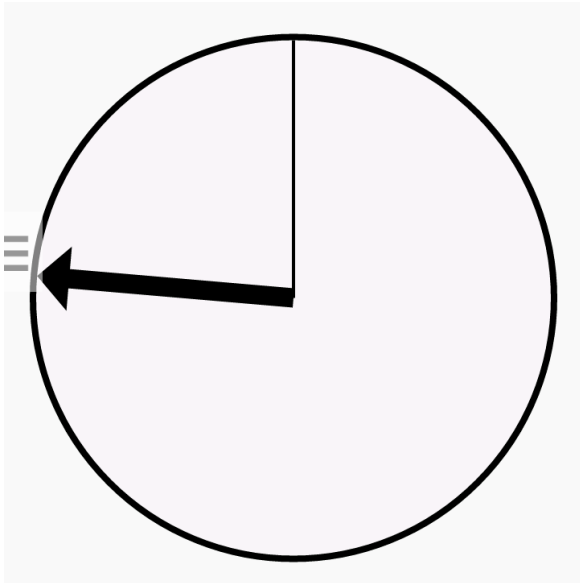
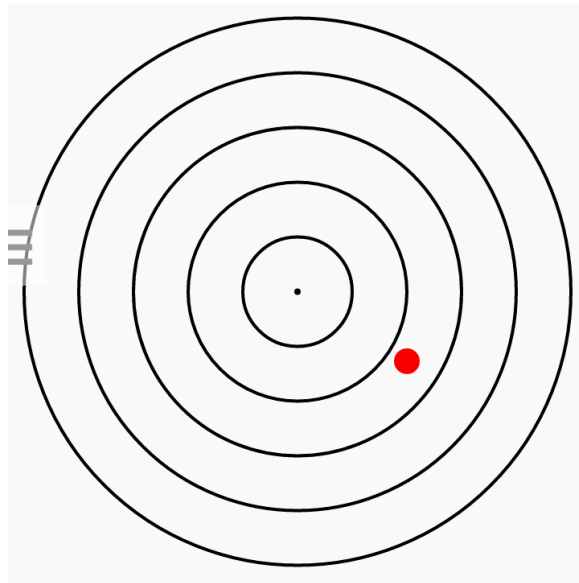

**Fig. 4.6.2:** Navigating to target: distance over 5 m
**Fig. 4.6.3:** Navigating to target: distance under 5 m
3. Tap on the arrow  to start the navigation function. If you are more than 5 m away from the target, a screen with arrow appears, see Fig. 4.6.2. Walk in the direction of the arrow to get to the target. As soon as you are less than 5 m away from the target, a screen with red dot appears, see Fig. 4.6.3.